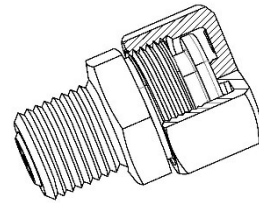
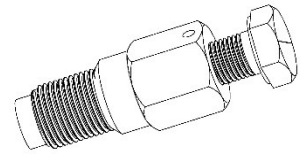

Fig. 2
Fig. 3
- Lubricant injector fitting (Fig. 2);
- Stem sealing injector fitting (Fig. 3);
**IDENTIFICATION OF INJECTORS :** GC plug valves are equipped with a stem packing injector (see Fig. 3) and with a lubricant injector (see Fig. 2).